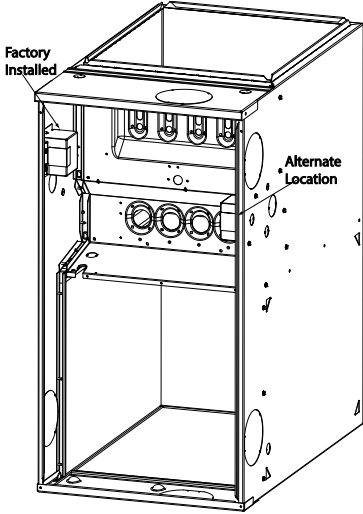

Fig. 26 – Relocating J-Box
1. Remove and save two screws holding J-Box. (See Fig. 26).
- NOTE:** The J-Box cover need not be removed from the J-Box in order to move the J-Box. Do NOT remove green ground screw inside J-Box. (See Fig. 26).